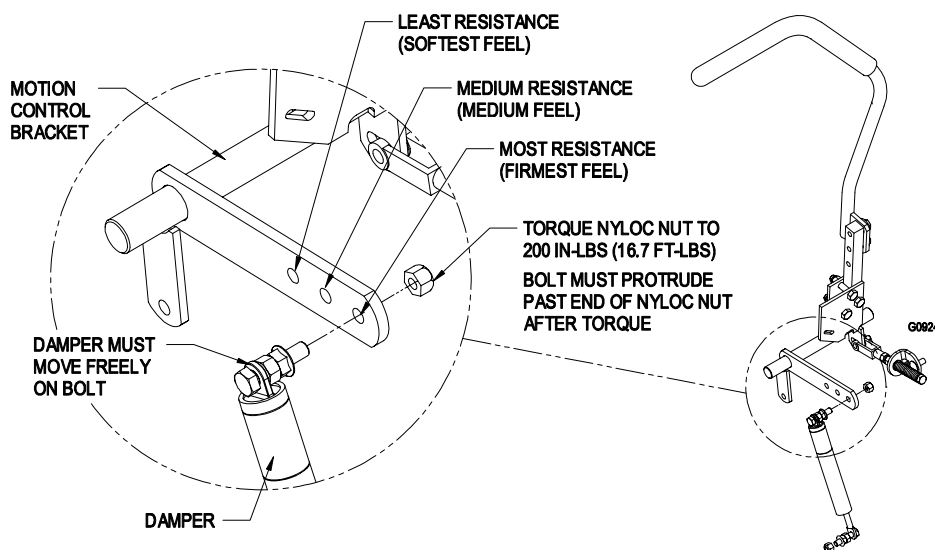

FIGURE 14
- a) The top damper mounting bolt can be adjusted to obtain a more desired motion control lever resistance. See Figure 14 for mounting options.